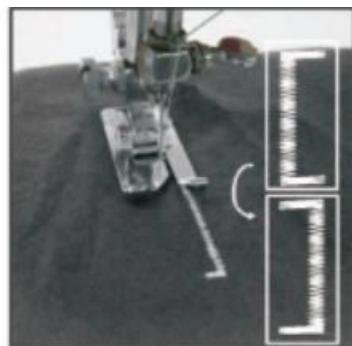

Fig.20
5. Raise the presser foot, rotating the cloth for 180°(Fig.20).